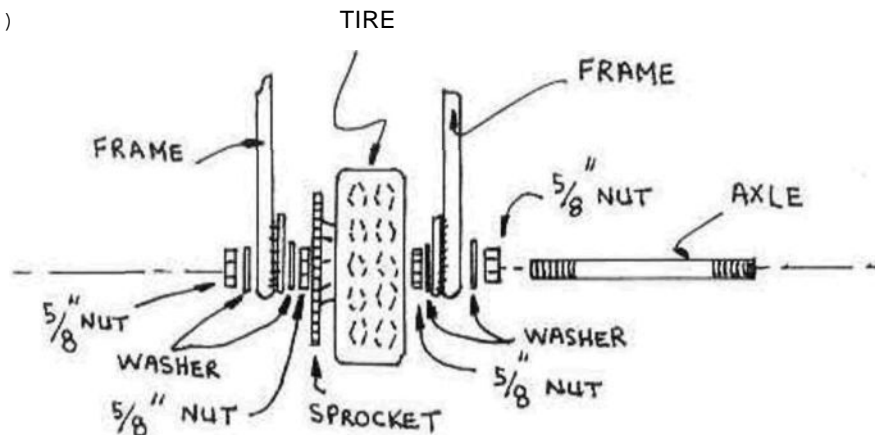

FIGURE 17
13. Install the rear wheel assembly to the frame as shown in Figure 17 below. (Insert the axle through the hub of the wheel, put on 5/8" jam nuts. Then put on a washer on each side and slide onto the frame. Install another washer and 5/8" nut and tighten.)